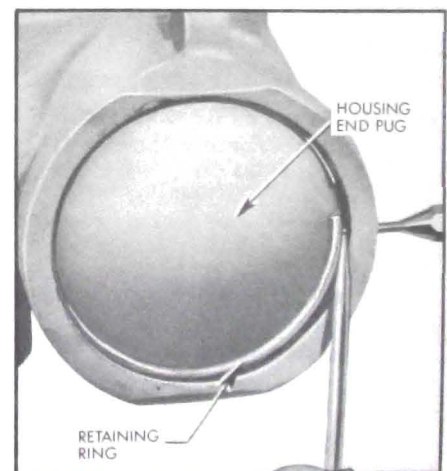

Figure 8-52—Removing Housing End Plug Retaining Ring
3. Rotate housing end plug retainer ring so that one end of ring is over hole in gear housing. Spring one end of ring with punch to allow screwdriver to be inserted to lift ring out. See Figure 8-52.